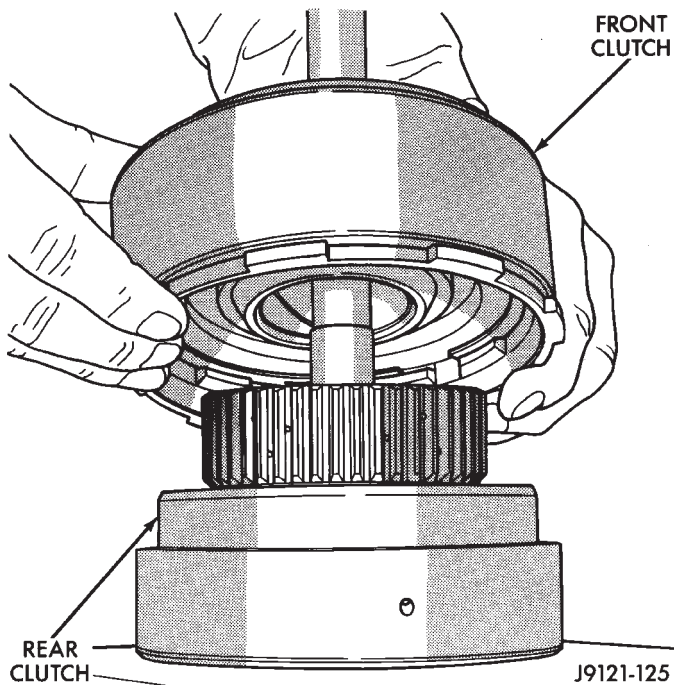

Fig. 19 Separating Front/Rear Clutch Assemblies
(29) Lift front clutch off rear clutch (Fig. 19). Set clutch units aside for overhaul.